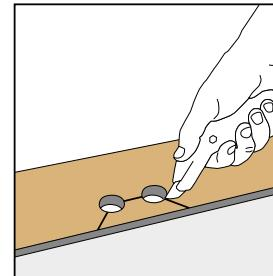
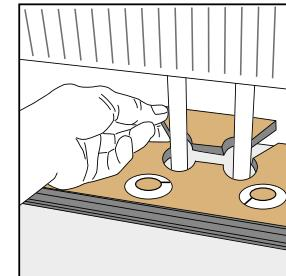

Figure 41
Figure 42
- Mark the centres of the holes on both the long and short sides using a carpenter's square and a pencil. Where the marks cross, drill a pilot hole using a thin #6 or #8 drill bit. Further drill the hole with a spade bit wide enough to accommodate both the diameter of the pipe and the required expansion gap. Cut around as shown with a saw or utility knife (Fig 41) and put a bead of suitable contact adhesive on the cut piece and replace (Fig 42). Insert a spacer directly behind the inserted piece to wedge it in place ensuring that the correct sized expansion gap has been left. Leave this in place until the adhesive has hardened.